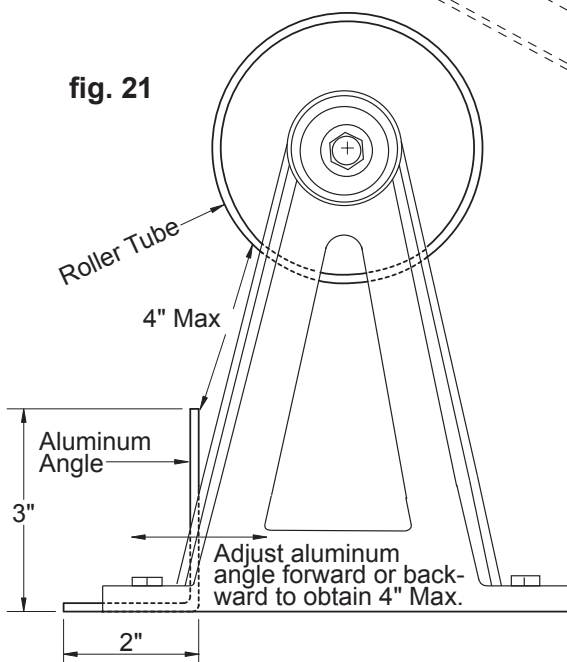

fig. 21
- 8.3.4 Adjust the aluminum angle forward or backward so the top edge is a maximum of 4" away from the outer edge of the tube. (fig. 21)